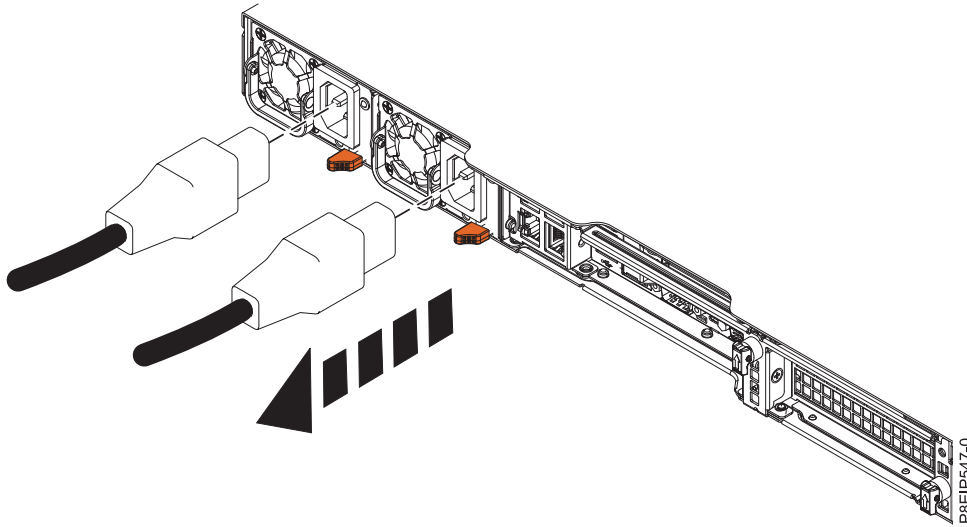

Figure 86. Removing the power cords from the system
2. Label and disconnect the power cords from the system unit as shown in Figure 86 on page 86.